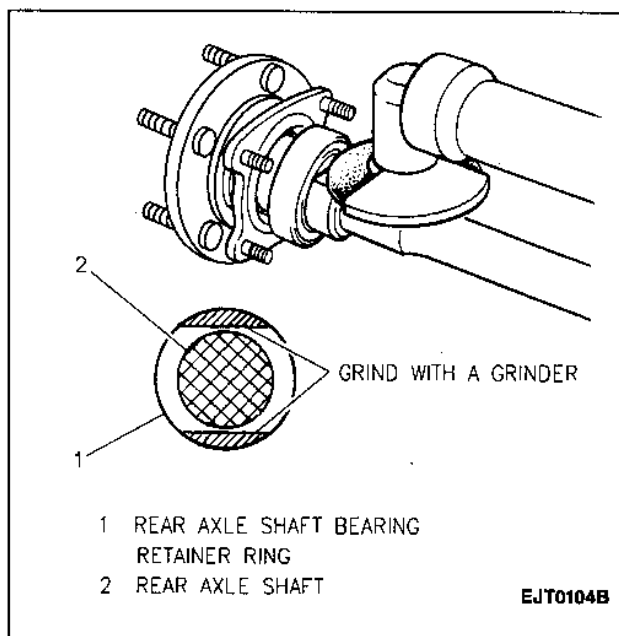

Figure 10—Grinding Rear Axle Shaft Bearing Retainer Ring
10. Using a hand grinder, flatten two opposite sides of the rear axle shaft bearing retainer ring (Figure 10).